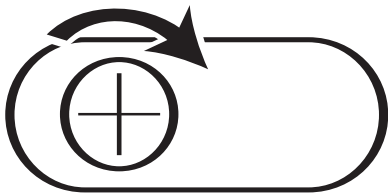

Fig. 9
2. Using a Phillips or slotted screwdriver - turn screw 1/4 to 1/2 turn clockwise (to the right). Unit should then idle properly (Fig. 9).